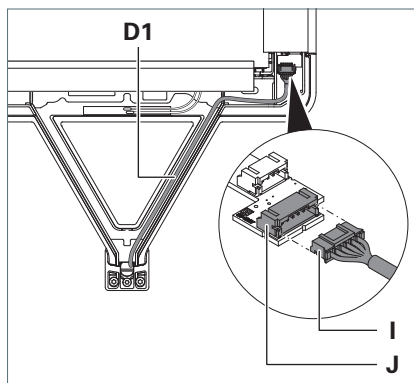

Fig. 5: Connecting the control cable.
- Lay the control cable **D1** from the column into the supporting arm of the luminaire head, see Fig. 5.